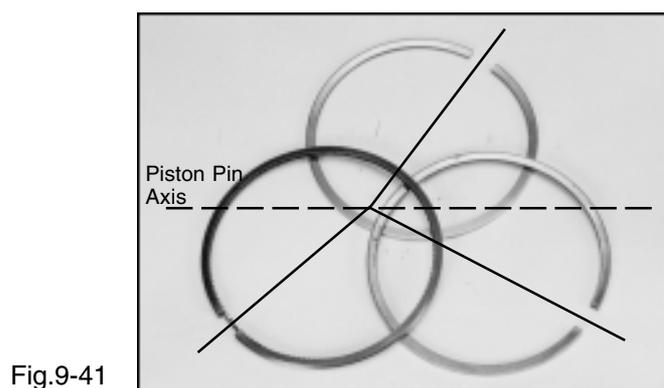

Fig.9-41
- Set the piston rings gaps at 120° interval (shown in Fig.9-41). Ensure ring gaps are not be in line with the axis of the piston pin.